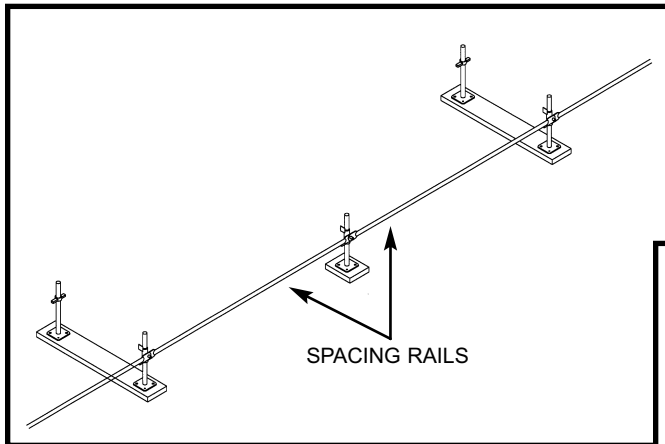

Figure 15: Setting Base for Girt Installation
**2.6.2.2 Getting started:** Begin Girt installation when the base scaffold level is installed. Do not attempt to install Girts between independent scaffolds as an after thought. At the base level, install SCREW JACKS, Vertical Diagonal Starter or Base Support members and rail members as required by section 2.3 along the entire run (which includes the Girt area) and level each bay as it is erected (see Fig. 15). This will assure proper girt spacing. If you are going to span across a door or drive, block the door or drive to restrict through traffic during the Girt erection process. The Girt length will be a multiple of the frame space and its span will be determined by the spacing rails used.